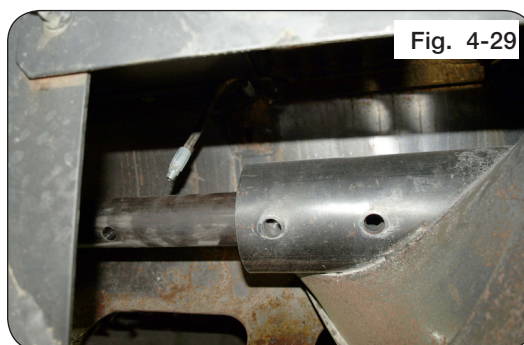

Fig. 4-29
14. Slide bushing insert into front auger and ensure tube holes are aligned. (Figure 4-28 & Figure 4-29)